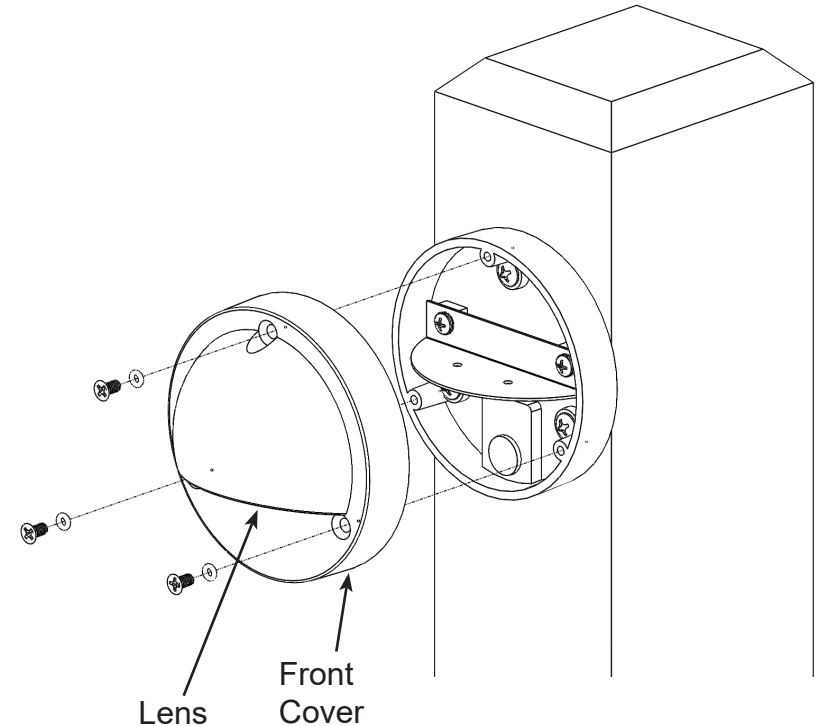

FIGURE 2
3. Install front cover on base with lens pointing down. Ensure screw holes are aligned, and secure cover to base using M4 x 8mm screws with "O" rings (Fig. 2).